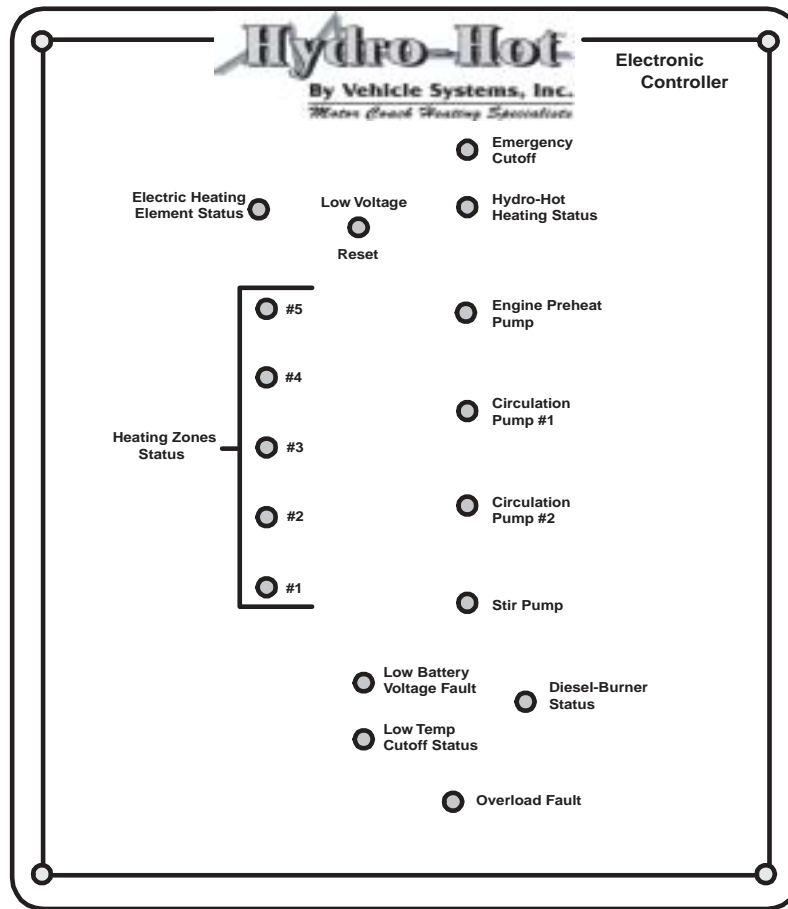

Figure 3
Turn the "**Diesel**" Control Switch **ON**, **Figure 3**. This procedure will activate the Diesel-Burner and the Indicator Light located on the Switch. Please contact your specific motorhome manufacturer for the exact Diesel Control Switch location. Allow 10-20 minutes for the System to reach operating temperature. Please note that the Diesel-Burner is the **main heat source** for heating both the interior and the domestic hot water. So, be sure to leave this switch **ON** during normal heating requirements.
Turn the "**Electric**" Control Switch **ON**, **Figure 3**. This procedure will activate the Electric Heating Element and the Indicator Light located on the Switch. The 120 VAC Electric Heating Element is wired directly into your coaches 120 VAC electrical system and is operational whenever VAC power is available. Allow 1-2 hours for the System to reach operating temperature. Please note that the Electric Heating Element will adequately provide all your heating needs **only** for low heating demand situations, such as when moderate ambient temperatures exist and/or when there is a low demand for domestic hot water.
A. Turn the Hydro-Hot's **"Engine Preheat"** Switch **ON**, **Figure 3**. This procedure will activate the Engine Preheat Circulation Pump and the